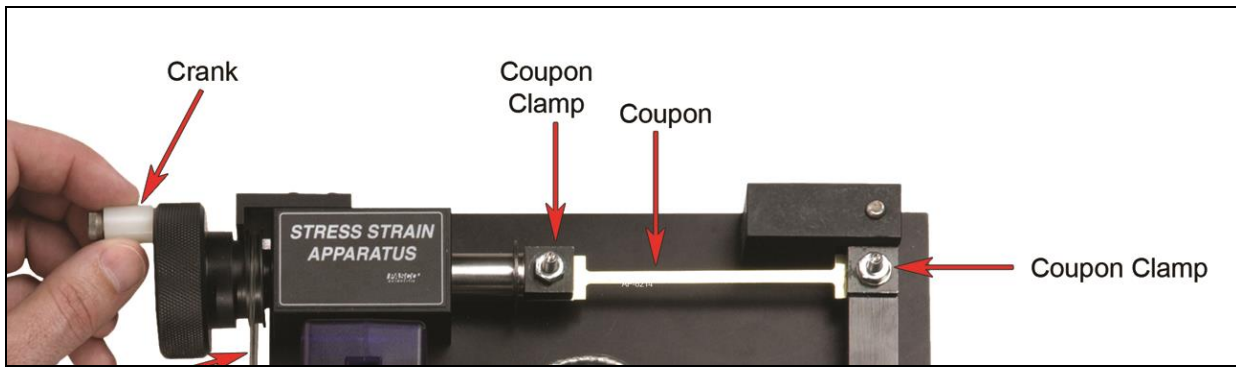

Figure 2: Clamping the sample (Coupon)
2. When installing coupons, loosen the nuts but do not remove them. The coupon should be slid completely under the clamp top on each end. Turn the crank to make room for the coupon so the coupon does not buckle and is straight. Then tighten the nuts with the wrench as tight as possible, making sure the coupon does not twist. (Figure 2).